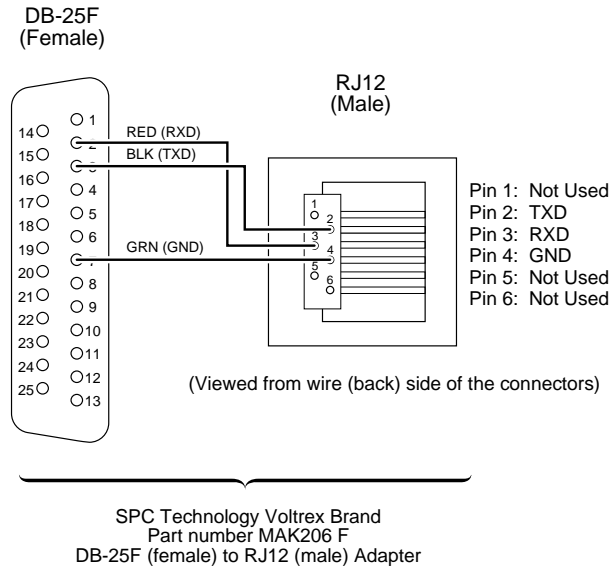

Figure 3-3. Wiring the RJ12/DB25 Adapter (1 of 2)
- 2** Adapter kits like the Voltrex MAK206F usually include a pre-wired RJ12 modular receptacle, a DB25F connector, and the adapter body, or wiring shroud. Wire the RJ12 receptacle to the DB25F connector according to the diagrams in Figure 3-3, and then assemble the adapter according to the instructions included in the kit.